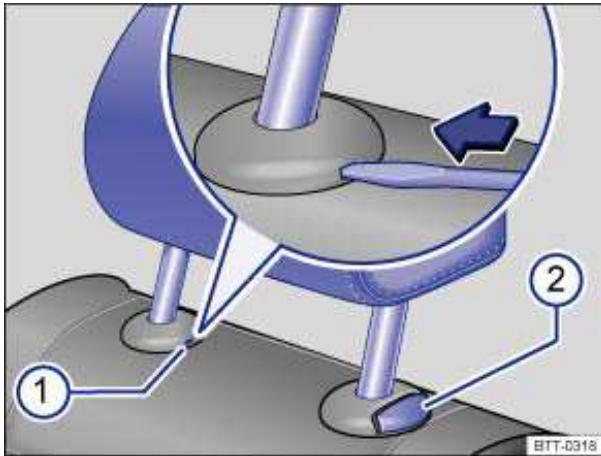

Fig. 61 Removing the rear head restraints.
- If necessary, press the flat blade of the screwdriver from the vehicle tool kit into the slit of the trim cap ⇒ fig. 61 (1) in the direction of the arrow and hold it in this position.
- At the same time press button (2) while a second person pulls out the head restraint completely.